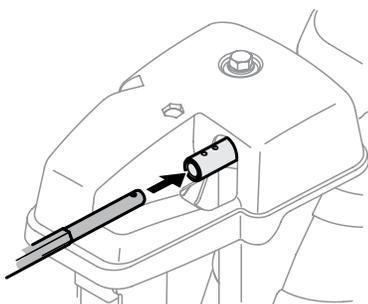

Figure 2-20
2. Insert round end of the chute control rod (hole pointing upward) as far as possible into chute control assembly. See Figure 2-20.